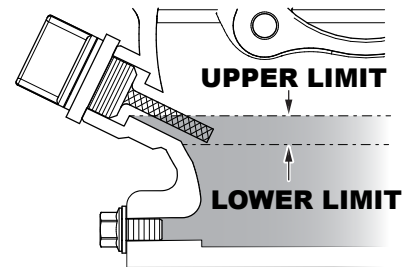

Figure 5. Engine Oil DipStick (Oil Level)
4. If the oil level is low (See Figure 5), fill to the edge of the oil filler hole with the recommended oil type (Table 6). Maximum oil capacity is 0.63 quarts (0.6 liters).